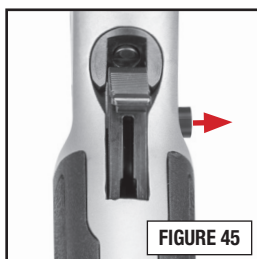
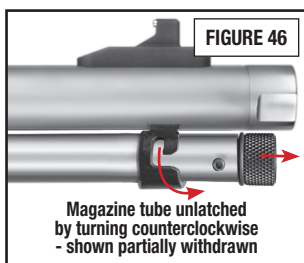
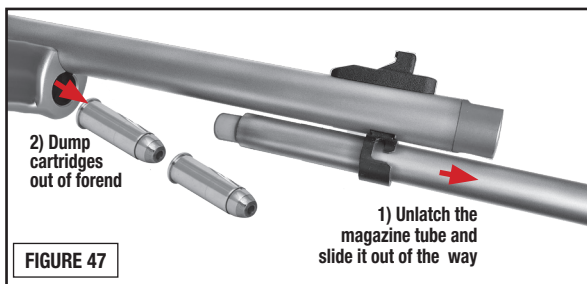

FIGURE 45
FIGURE 46
FIGURE 47
- The first way to empty the magazine tube is to keep the rifle pointed in a safe direction with the cross-bolt safety pressed fully to the right in the “NO-FIRE” position (FIGURE 45), then unlatch the magazine tube and withdraw it completely from its standard position (FIGURE 46) - and then dump the cartridges out of the rifle by tipping it down at the muzzle (FIGURE 47).